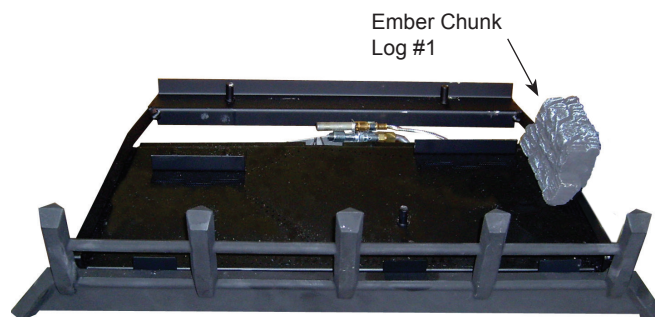

Figure 31.
1. Place the #1 log (the "chunk") on the grate bar right side of the burner adjacent to the controls. Figure 31